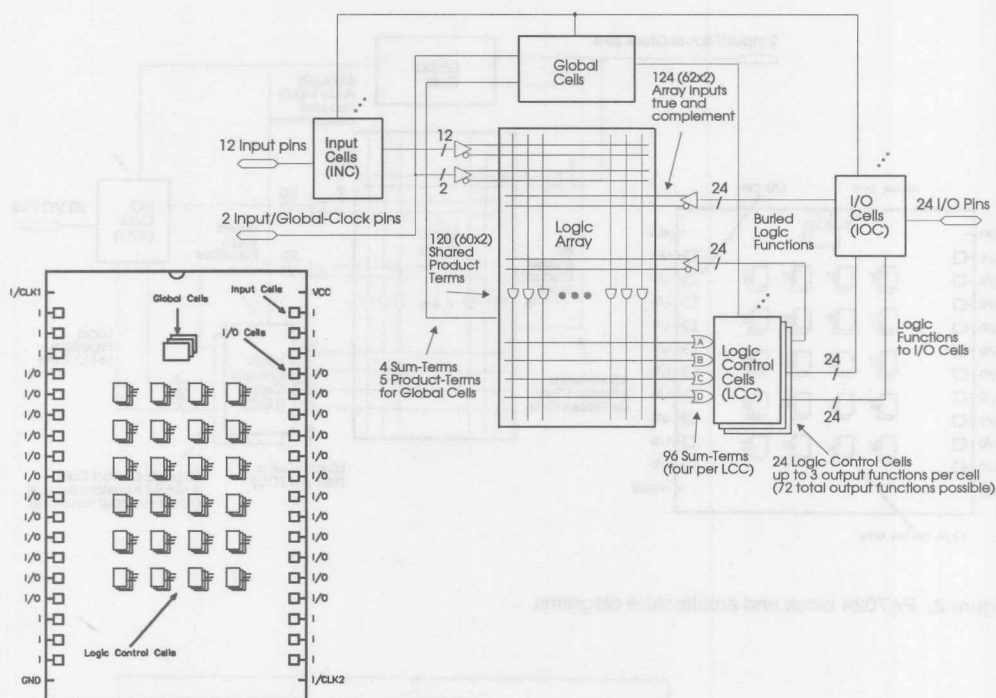

Figure 4. PA7140 architecture and block diagrams
Offering more pin and logic density than the PA7024 or PA7128, the PA7140 architecture consists of 24 I/O pins, 14 input pins and 60 registers/latches (24 LCC, 24 IOC, 12 INC), see Figure 4. The PA7140 logic array has 100 sum-of-product logic functions that can share up to 60 each of 120 product terms. The 24 LCC's are divided into two groups (group A and B) each with 12 LCCs. Each LCC group can fully share half (60) of the 120 product terms available for sum-of-product logic functions. As with the PA7128, the PA7140 multi-function logic cells offer up to three outputs per cell for a total of 72 possible output functions (48 of which can be buried). The PA7140 also has a special global cell feature to preload and unload buried registers for test purposes. The PA7140 can implement designs that exceed the architectural capabilities of devices like the MACH110/210, ATV2500, EPM7032, EPM5064 and EP910. The PA7140 offers propagation delays as fast as 13ns/20ns (internal/external) and synchronous clocking frequencies to 66MHz. Power consumption is 100mA max @ 25MHz (80mA typ.). The PA7140 is packaged in 40-pin DIP and 44-pin PLCC.